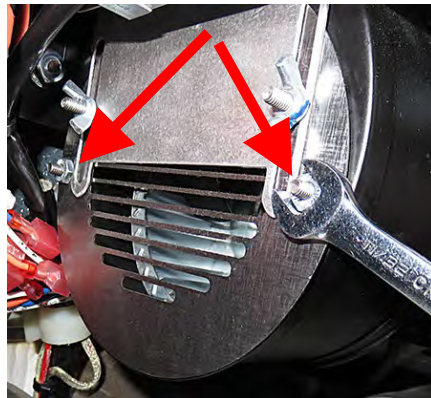

Figure 3
3. Using an 11/32" open end wrench, remove the blower grill from the blower by removing the two nuts attaching the grill (see Figure 3). This allows access to the left two nuts of the blower.